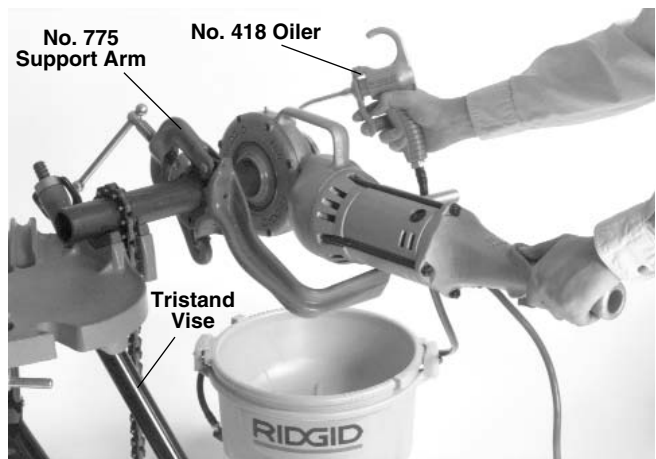

Figure 4 – Threading 2" Pipe With Power Drive Positioned On Left Side Of Vise
3. Be sure the 418 Oiler is properly filled with RIDGID Thread Cutting Oil. Position the oiler in front of the vise (*Figure 4*).
4. Position No. 775 Support Arm on pipe so end of tang is in line with end of the pipe (*Figures 4 & 5*). Make sure jaws squarely contact pipe and tighten handle firmly to prevent the slipping of the jaws.
▲ WARNING To avoid serious injury, make sure Power Drive is correctly positioned on support arm (*Figures 4, 5 & 6*). For right hand threads, Die Head will rotate clockwise (looking at the face of the Die Head). Forces developed by the threading torque will be in the opposite or counter-clockwise direction.